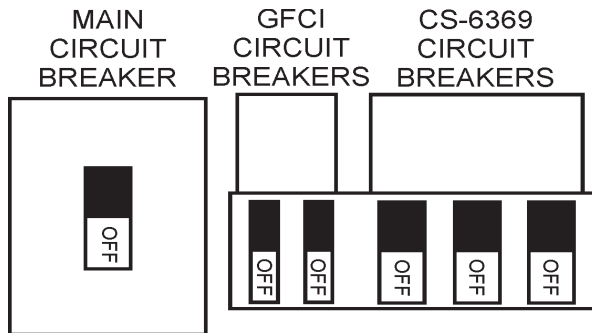

Figure 28. Main, Aux. and GFCI Circuit Breakers (OFF)
1. Place the **main**, **G.F.C.I.**, and **aux.** circuit breakers (Figure 28) in the **OFF** position prior to starting the engine.